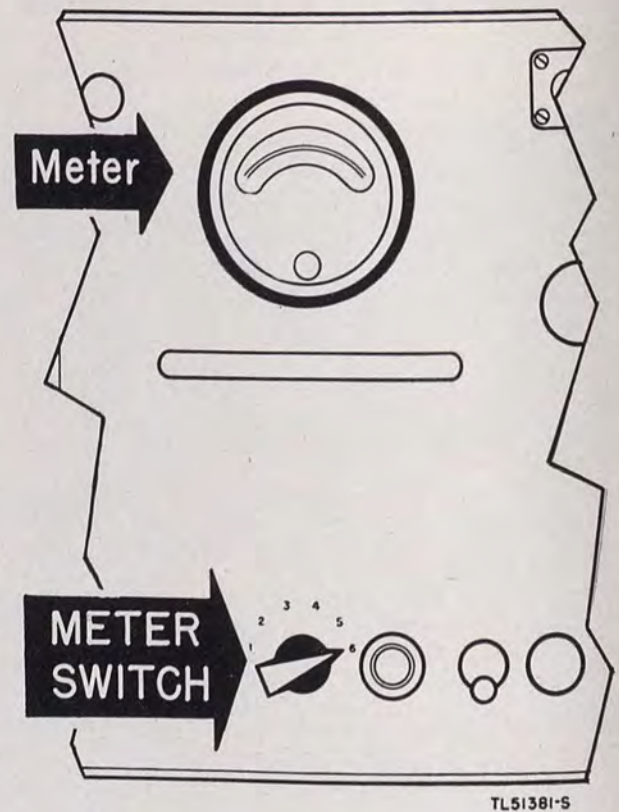

Figure 6. Meter and METER SWITCH, Radio Transmitter T-14(\*)/.
(7) Meter switch (fig. 6). Connects meter M-1 to the various grid and plate circuits to facilitate tuning and operation.